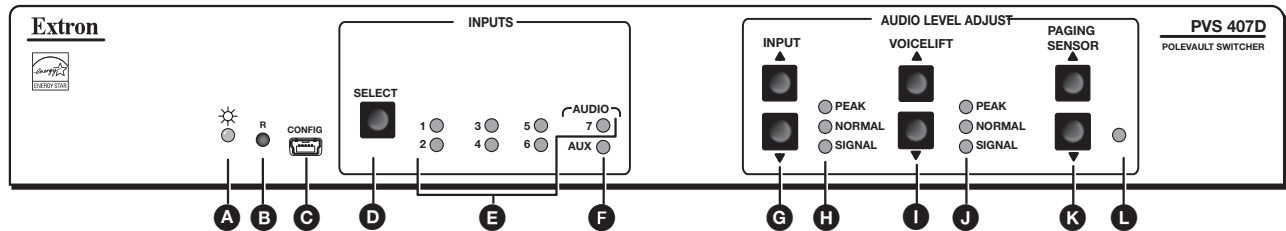

Figure 8. PVS 407D Front Panel Features
- E Input selection LEDs (1 to 7, Aux)** (see **figure 8** on page 10) — The applicable input LED lights green when that input is selected and active.
The reset button on the front panel (see **figure 8** on page 10) is a small recessed switch that allows the user to put the switcher into any one of three different reset modes. The PVS 407D switcher reset modes are: